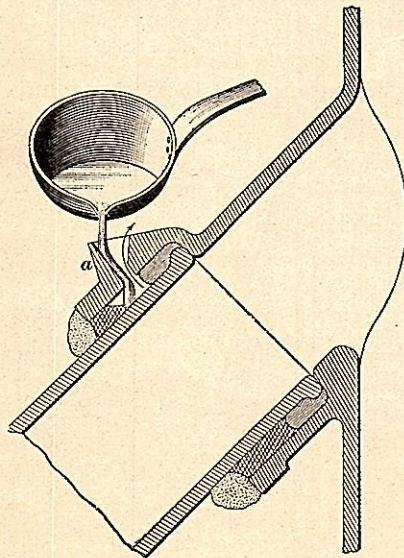

FIG. 13
**13.** If it is necessary to calk an inverted joint in place, a special fitting should be used that has a pouring gate cast on the socket, as shown at *a*, in Fig. 13. The air escapes through this pouring gate, as shown by the arrow, while the molten lead